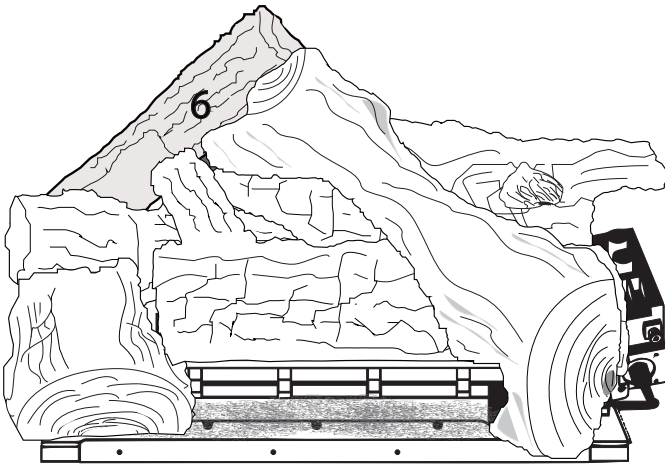

Figure 6.25 - Log #6 Placement
7. Place Log #6 by lining up the locating pins that are on Log #1 and Log #2 with the slots on the bottom of Log #6. When in place, Log #6 will be leaning on Log #5. See Figure 6.25.